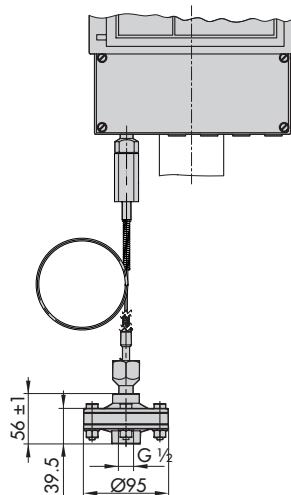
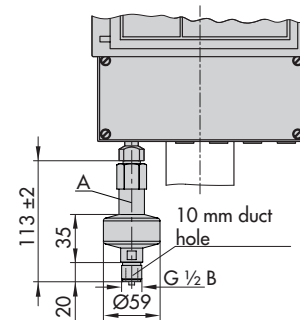

Fig. 6: Diaphragm seals for general use
Fig. 8: Diaphragm seals for use with flammable gases
▶ Table 3 for technical data and Fig. 6 to Fig. 8 for dimensions.